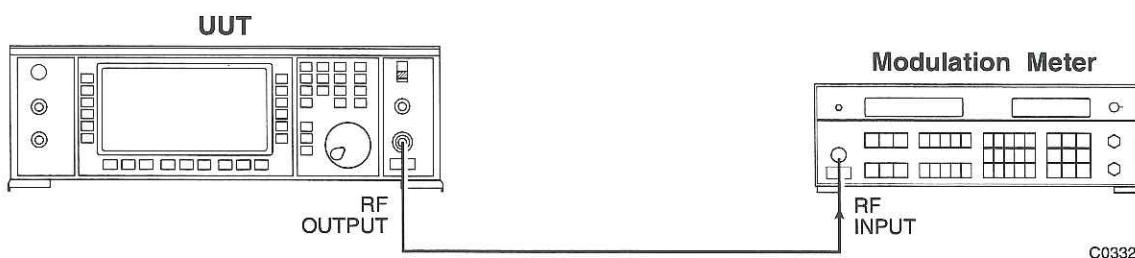

Fig. A-3 Equipment configuration for the AM tests
| Fig. A-3 Equipment configuration for the AM tests..... | App. A-5 |
- (1) Connect the RF OUTPUT on the UUT to the RF input on the modulation meter. Equipment configuration is shown in Fig. A-3.